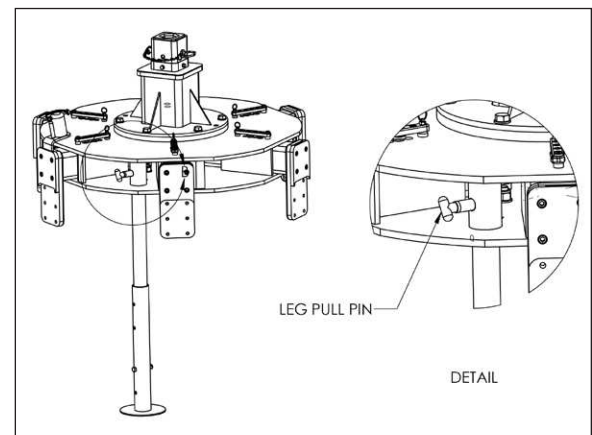

Figure 10. Leg Pull Pin For Leg
10. Pull the Leg Pull Pin [P-MM0023] outward and slide the leg into the sleeve until the Leg Pull Pin is able to snap into the leg hole. See Figure 10.